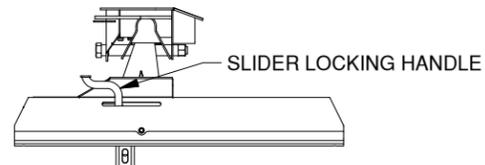

FIGURE F1; Side view of Slider Base. LOCKED HANDLE POSITION
3. Pull the truck forward slowly until the handle falls and is in the locked position, shown in figure F1.
7. Move the truck slowly in reverse until the handle falls and is in the locked position, shown in Figure F1.